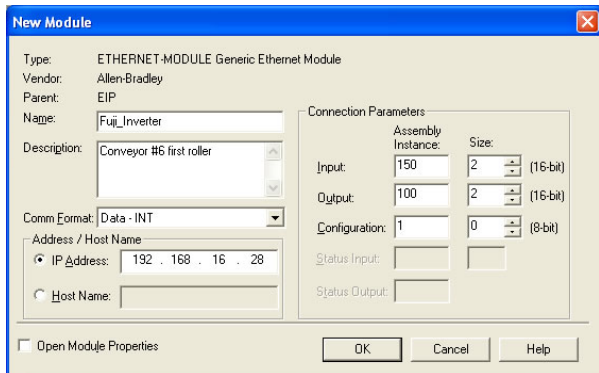

Figure 87: Interface Card Module Properties
- 4) The module properties dialog box will open (refer to Figure 87). Enter a Name and Description which will allow easy identification of the inverter on the network (the tags created in RSLogix 5000 will be derived from this Name). Because all inverter data is stored as 16-bit registers, change the "Comm Format" selection to "Data-INT". Enter the IP address of the targeted interface card.